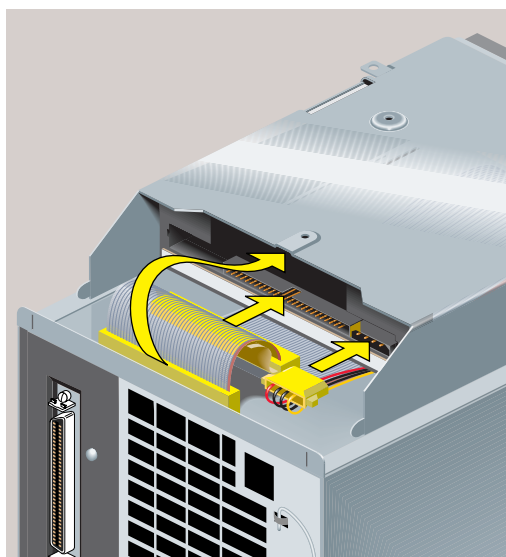

Figure 5-53 Reconnecting the SCSI and Power Cables
- Reconnect the SCSI cable and the four-wire power cable to the replacement CD-ROM drive (Figure 5-53).